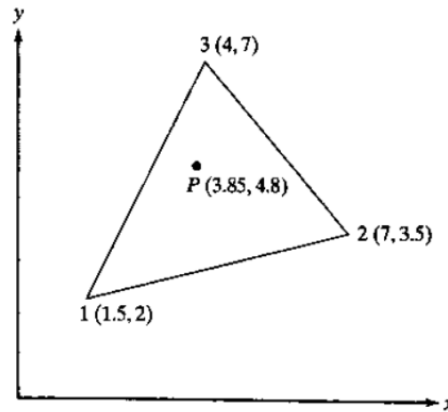

Figure.2
b) Evaluate the shape functions N_1 , N_2 & N_3 at the interior point P for the triangular element shown in figure.2. [5]